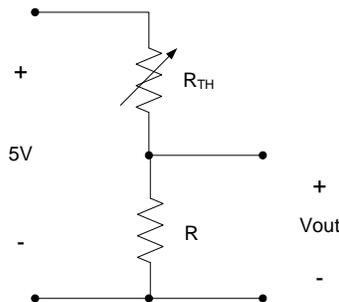

Figure 2. Temperature measurement circuit schematic.
Thermistors are classified as NTC (Negative Temperature Coefficient) or PTC (Positive Temperature Coefficient) depending on whether their resistance decreases or increases with temperature. Thermistor specifications also include their nominal resistance at some temperature. The thermocouple with the temperature-resistance curve shown in Fig. 2 is specified as an “NTC 10K Ω @ 25°C” thermistor. Additional information about thermistors can be found in the backup information provided as a companion document on to this lab.
Our design criteria are as follows: Design a circuit like that shown in Fig. 2, containing a thermistor as one of the resistances, which satisfies the following specifications:
In the circuit of Fig. 2, the resistance R_{TH} is the variable resistance of the thermistor. (The arrow through the resistor symbol typically means that the resistance is not necessarily constant.) The voltage v_{out} is the voltage that we will use to indicate temperature. The 5V input voltage is applied across the two resistors as shown. The design problem is to choose a value for R so that v_{out} increases by a minimum of 0.5V over a temperature range of 25°C to 37°C. To do this,
1. Analyze the circuit of Fig. 2 to determine v_{out} as a function of R_{TH} and R .